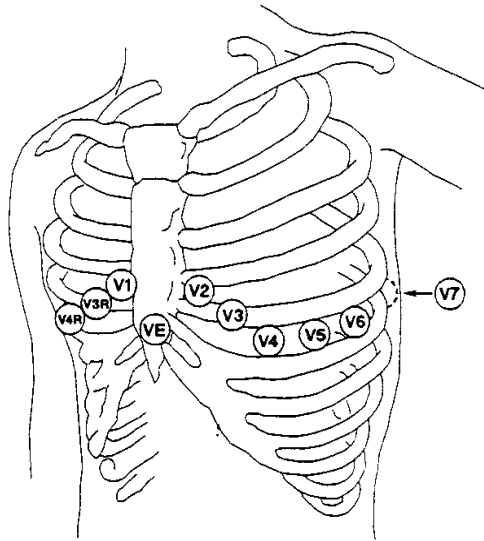

Figure13-3 C-Electrode Placement for 5-lead Set
For 5-lead set, attach the C (V)-electrode to one of the indicated positions as below (Figure 13-3):